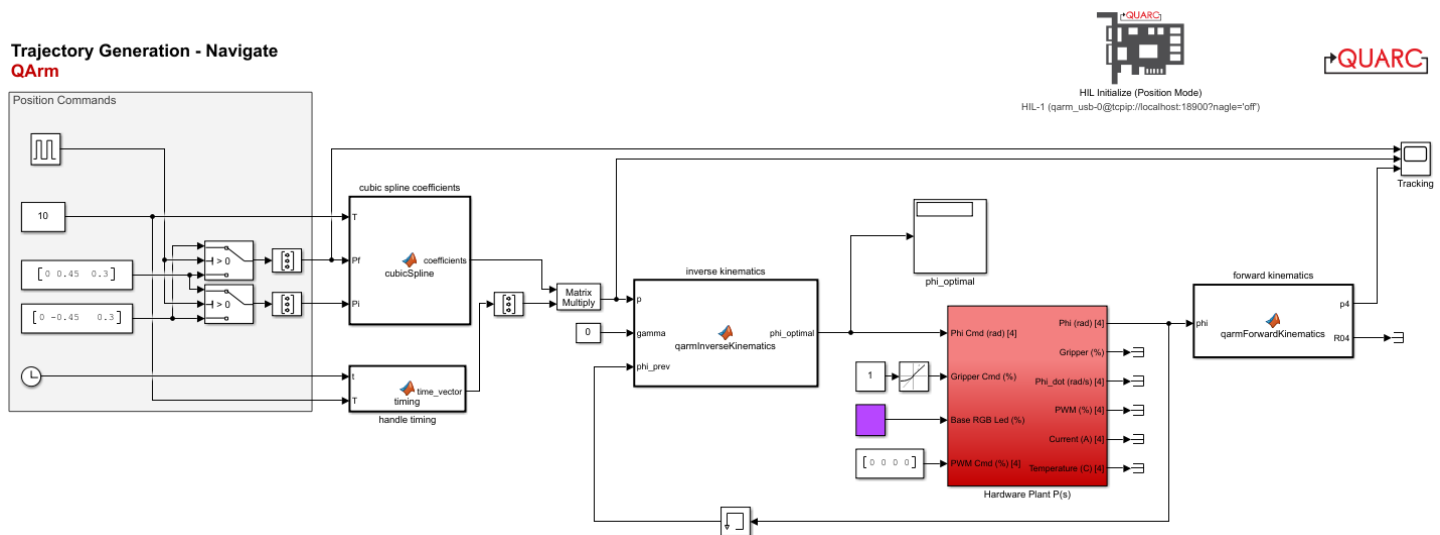

Figure 1 - Simulink model that generates and commands a trajectory based on cubic splines.
1. Open the Simulink model Navigate.slx (Figure 1).